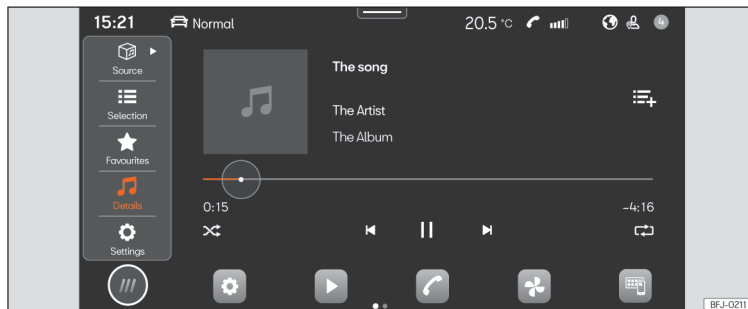

Fig. 132 Schematic diagram: Media view
- Press **HOME** > ► >>> **Fig. 132**.